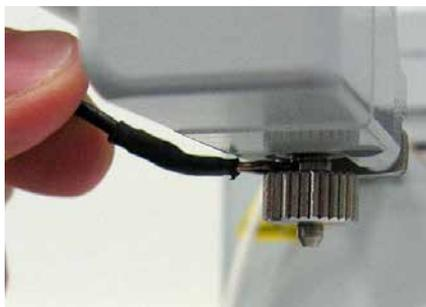

Fig. 25: Installing the normal-phase ground strip
4. Push the open clip end of the grounding cable from the normal-phase kit between the diverter valve and the drop former (→ Fig. 25).